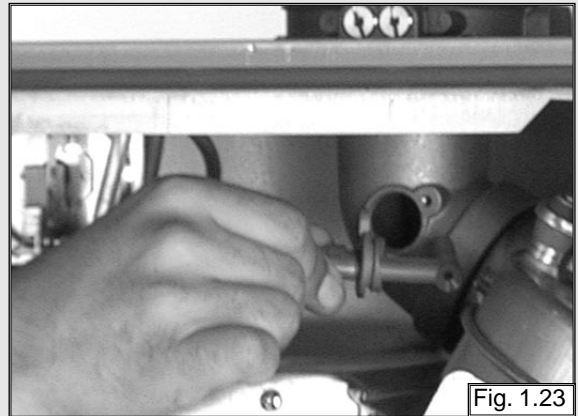

Fig. 1.23
2. Extract the venturi (see fig. 1.23).